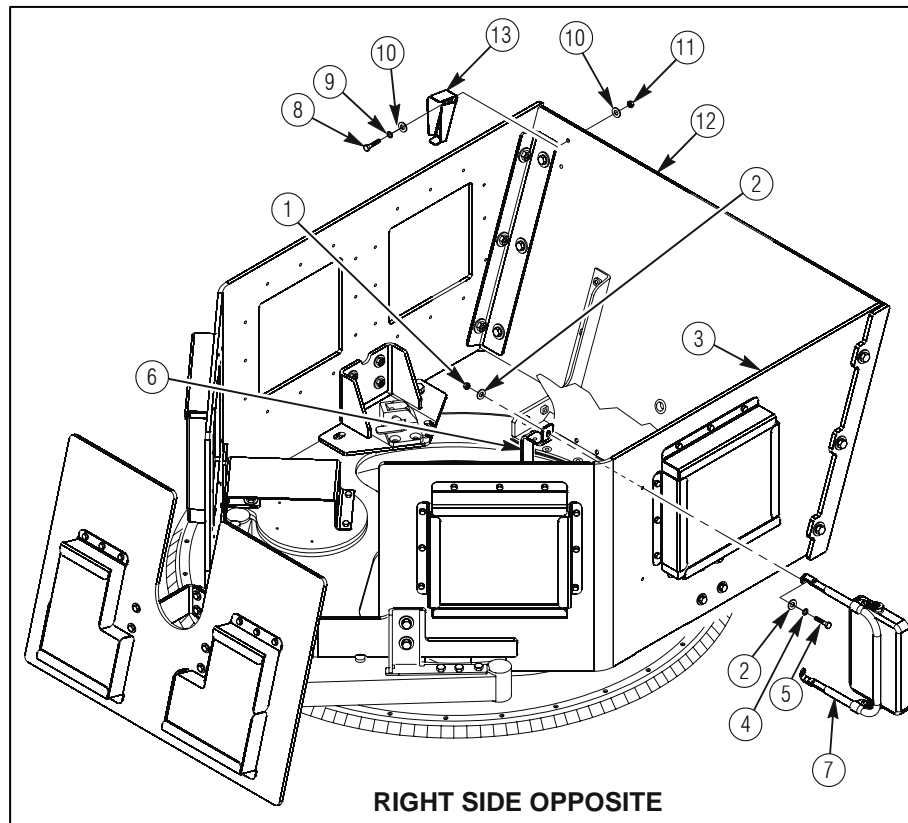

*Figure 21*
- h. Secure shield windows by attaching 13014411 top tabbed brackets (3) using three 13014410-20 hex bolts (1) and three 13014410-3 lockwashers (2) as shown in figure 21.